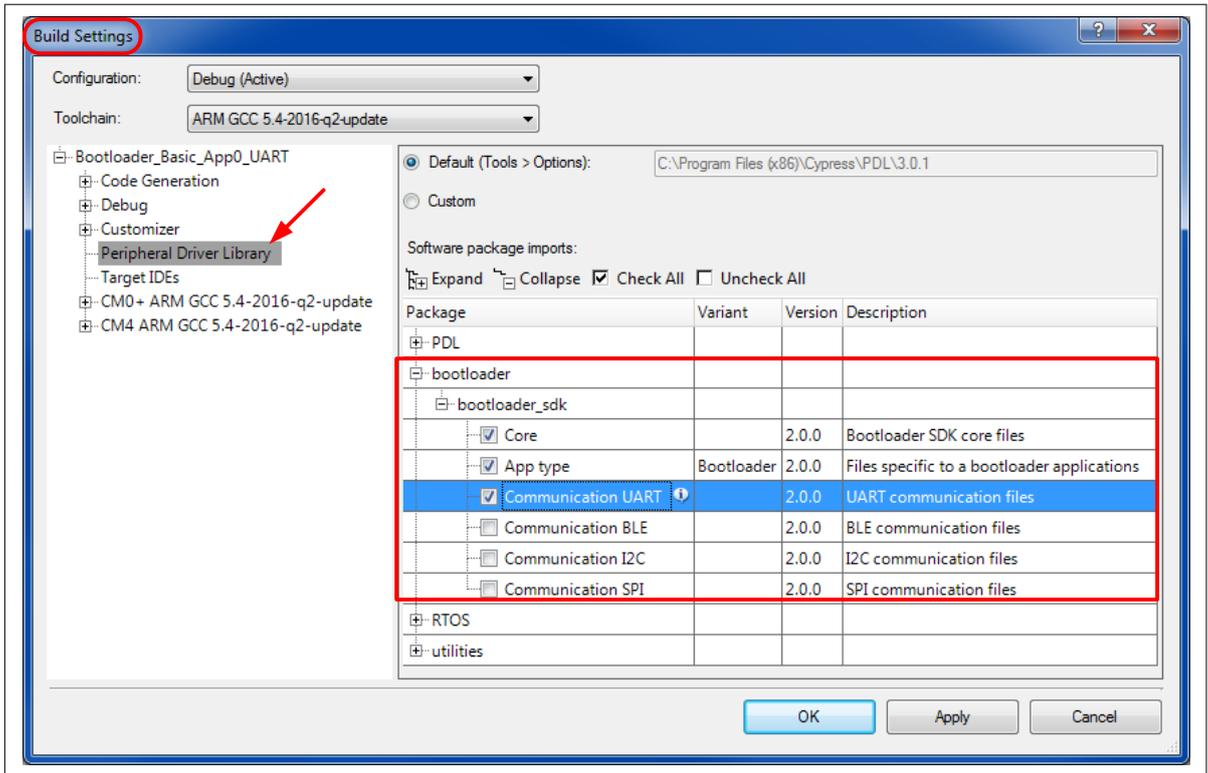

Figure 10 Incorporate bootloader SDK into a PSoC™ Creator project
2. Incorporate the Bootloader SDK into the project, as Figure 10 shows. Right-click the project in the Workspace Explorer window and select **Build Settings....** In the **Build Settings** dialog, select **Peripheral Driver Library**.